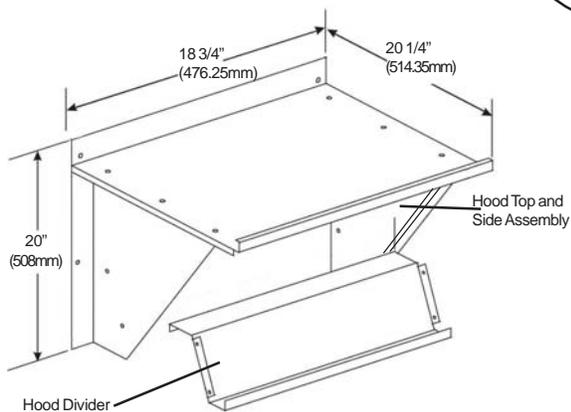

Fig. 4 - Hood Assembly
11. Remove the hood parts from the economizer package. Assemble as shown in Fig. 4 by screwing together with provided #10 x 5/8" screws.